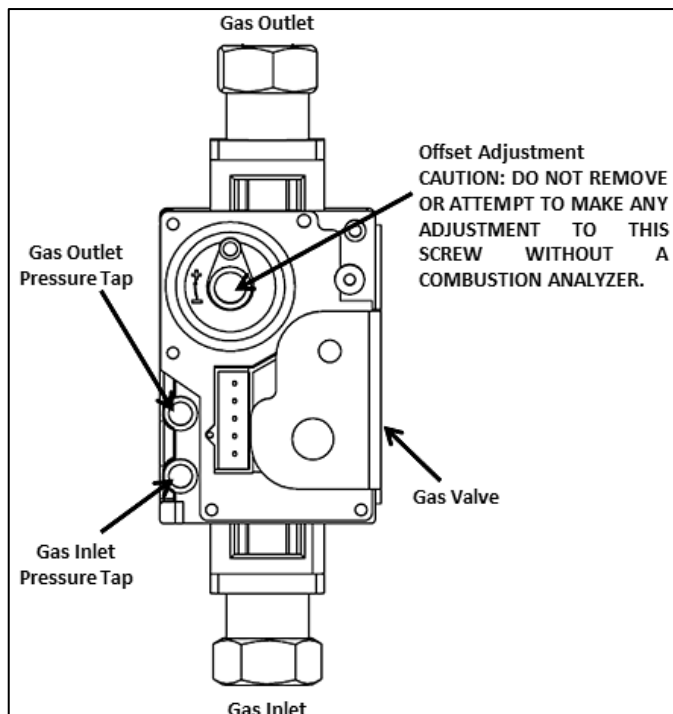

Figure 56 –Gas Valve Detail
NOTE: Refer to Figure 56 when adjusting gas pressure. Loosen the screw before checking the gas inlet pressure.
3. Loosen the gas inlet pressure tap screw three turns a screwdriver. Connect the manometer to the inlet gas pressure port. See Figure 56.